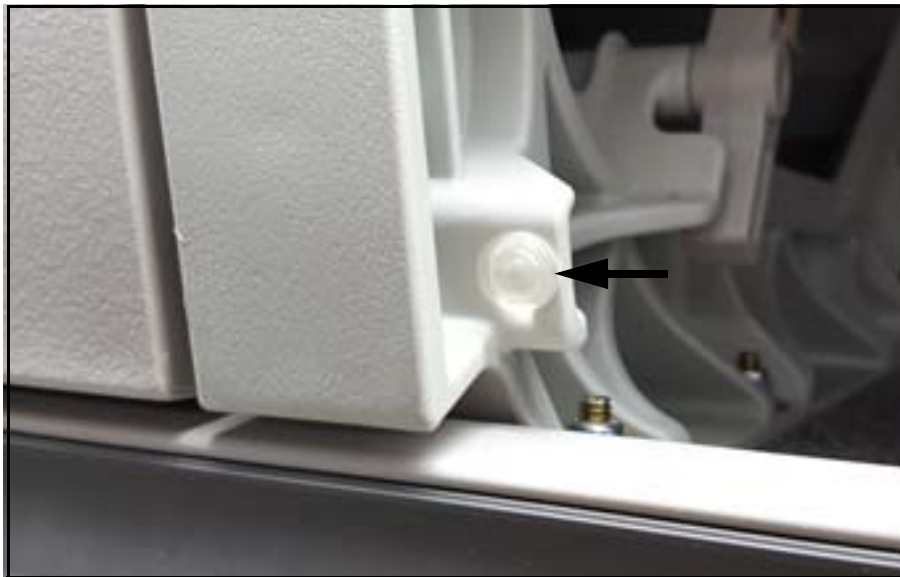

**Figure 1.**
4. Locate the existing affixed bumper, as applicable, on the parcel rack strut ( Figure 1 ). Remove and discard the existing bumper.